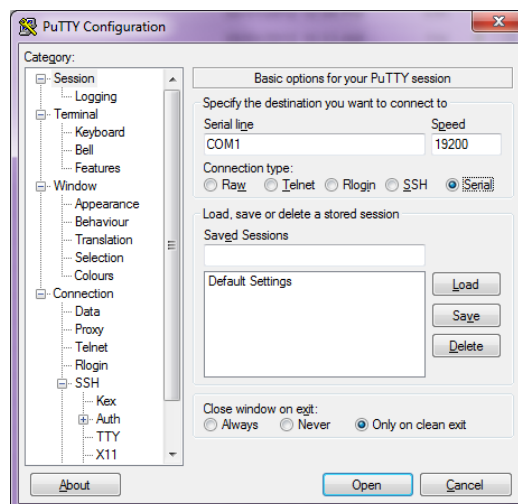

Figure 6- 2. PuTTY Configuration Dialog Box
Under Session, change the Connect Using Box to indicate which serial port (with USB cable COM5 is typical) will be used. See Figure 6- 2.
- Click the Connection Option and then Serial (left side) and insert the correct numbers as shown below and in Figure 6- 2. Click OK to close the Configure Box and OK to close the Properties Box.